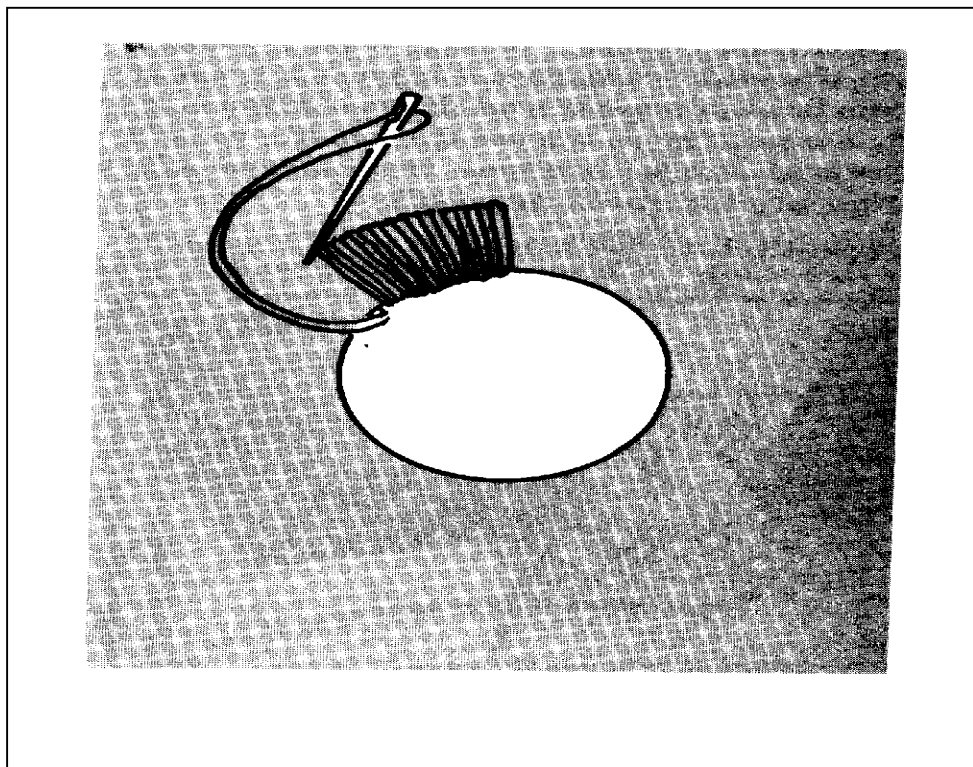

Figure 7-10. Round stitch
d. Round Stitch. The round stitch (Figure 7-10) is used to hand sew a grommet in place. To make a row of round stitches--
- (1) Thread the sailmaker's needle, but do not tie the ends in a knot.
- (2) Push the needle down through the canvas, and draw the thread through the canvas until a 1/2-inch end is left.
- (3) Bring the thread and needle around the edge of the canvas and cross over the 1/2-inch end.
- (4) Push the needle down through the canvas again.
(5) Continue wrapping the thread around the edge and sticking the needle down into the canvas to cover the 1/2-inch end.
(6) At the end of the row of stitches, stick the needle under a 1/2-inch section of stitches, and pull the thread through to cover the end. Cut off the remaining thread.